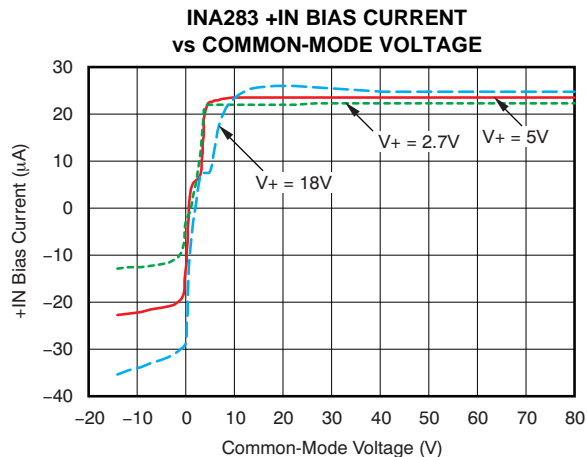

Figure 20.
(1) RTI = referred-to-input.
(2) See typical characteristic graph Figure 20.
(3) The average of the voltage on pins REF1 and REF2 must be between V_{GND} and the lesser of $(V_{GND} + 9\text{V})$ and V_+ .